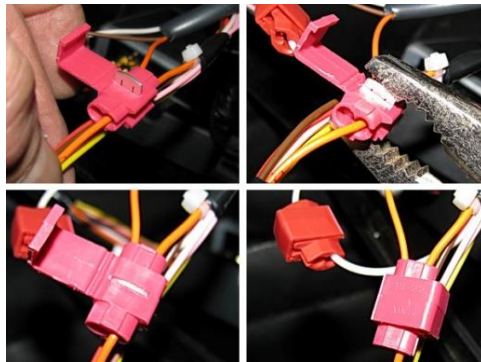

Figure 32 — Using connectors to connect wires of signal cable
- 4) **Quick splice connectors** (ordered separately) are recommended for electrical connection of signal cable wires (see figure 32).